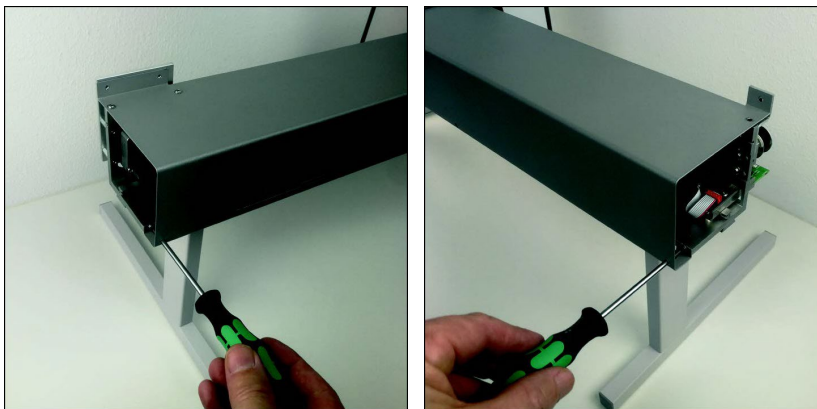

Figure 104: X-beam Rear Cover Removal 2
2. Using a Torx Tx10 screwdriver, unscrew the inner screw from the left and right side. Note that the screw is reachable using the hole in the cover. See Figure 104.